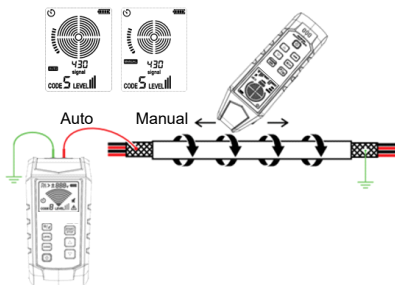

Figure 11.5.1a Track shielded cable (with its far end grounded)
5. See Figure 11.5.1a for specific application.